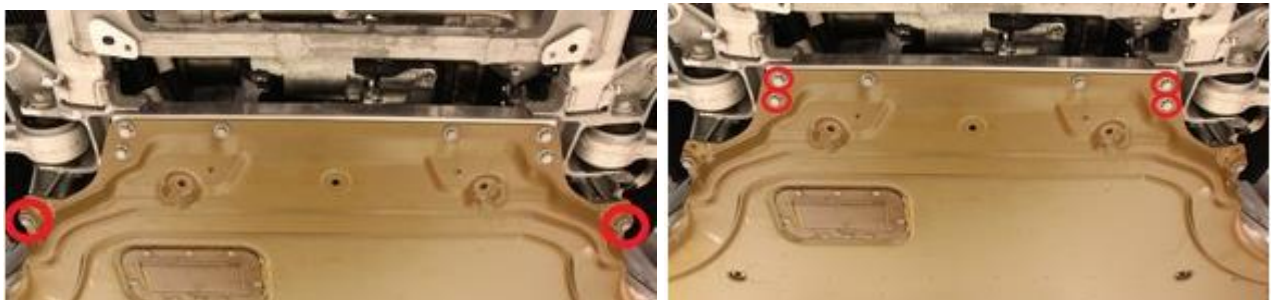

Figure 10 – Front Skidplate Fasteners
1. Visually inspect the skidplate for tears, dents, or breaches (Figure 10).